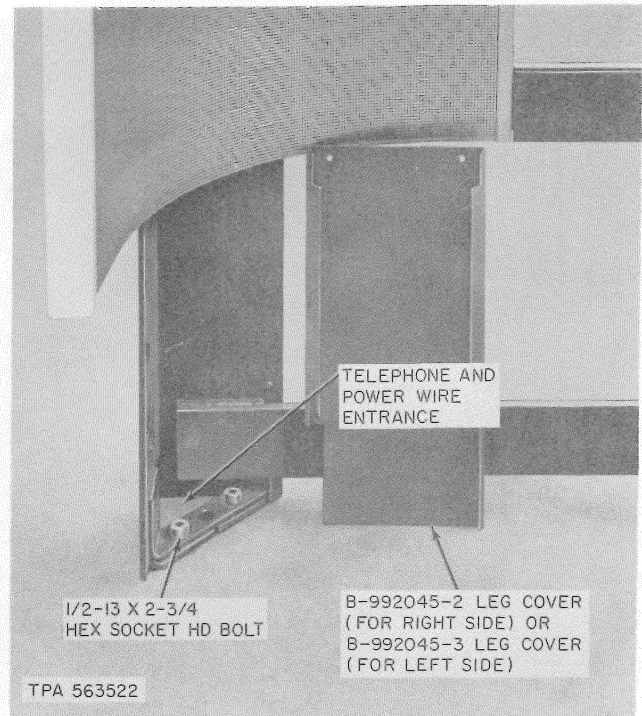

Fig. 22—List 14 Leg Assembly Bolted to Mounting Surface
using four 1/2-13 by 2-3/4 inch hex socket-head bolts (Fig. 22). Secure cross brace to expansion shields using two 1/2-inch flat washer and two 1/2-13 by 3-1/2 inch hex socket-head bolts. See **THINK** preceeding (3).
- (5) Repeat 3.06 (7) through (9).